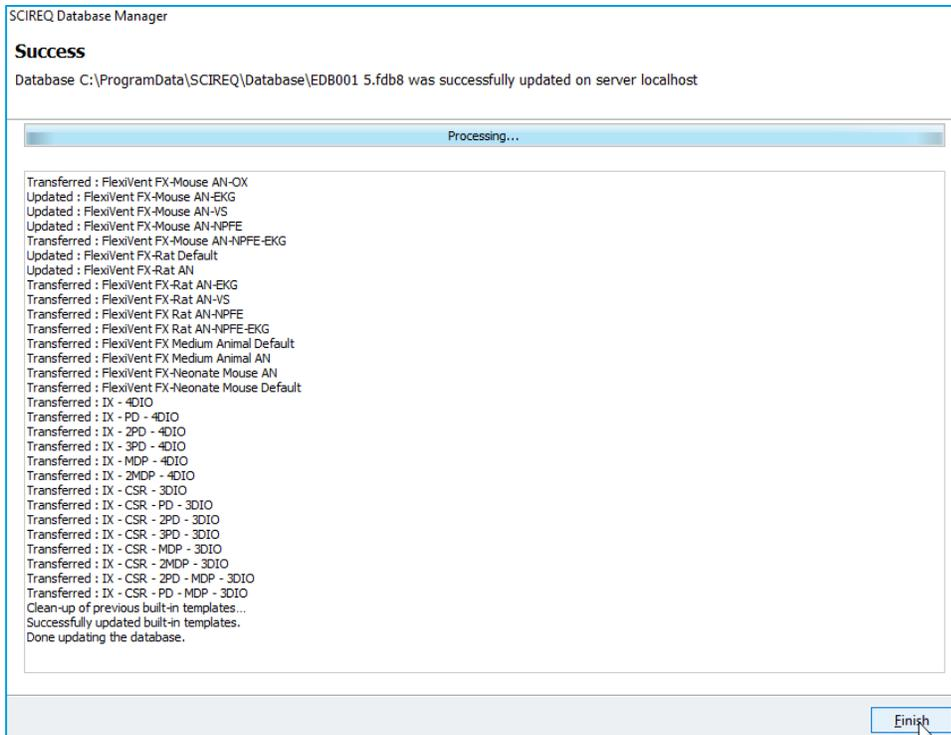

Figure 4-6. Database Update Successful
- » Click *Ok* and then *Finish* once the update has completed (Figure 4-6) to return to the welcome dialog for flexiWare